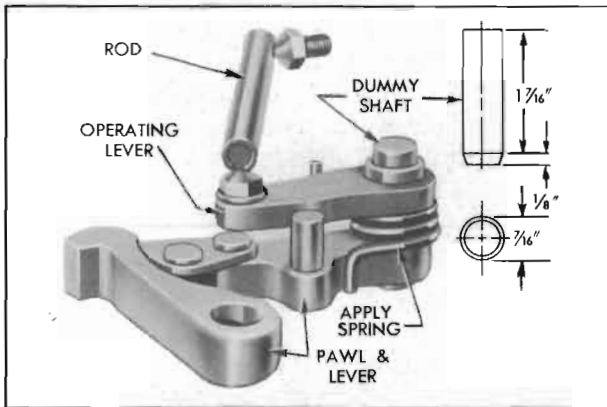

Figure 4-122—Assembly of Parking Lock Control Parts and Dummy Shaft
1. Assemble the locking pawl and lever assembly, apply spring, and parking lock operating lever with operating rod on dummy shaft as shown in figure 4-122; note position of each end of apply spring.